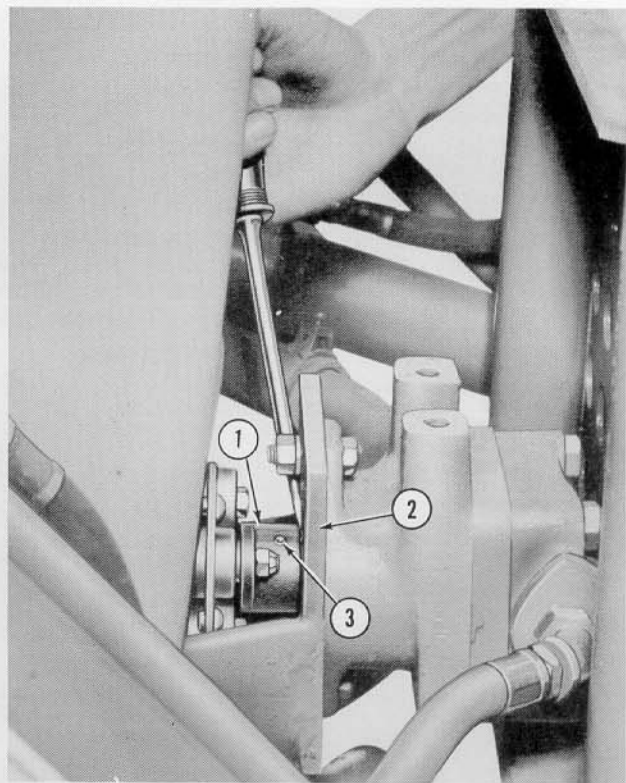

Figure 10
- i. Insert a screw driver between the flange (1), Figure 10, and the mounting bracket (2) as shown. Pry the coupling and drive shaft back until the splined end of the shaft is firmly seated in the drive plate, then tighten the Allen screw (3) securely.